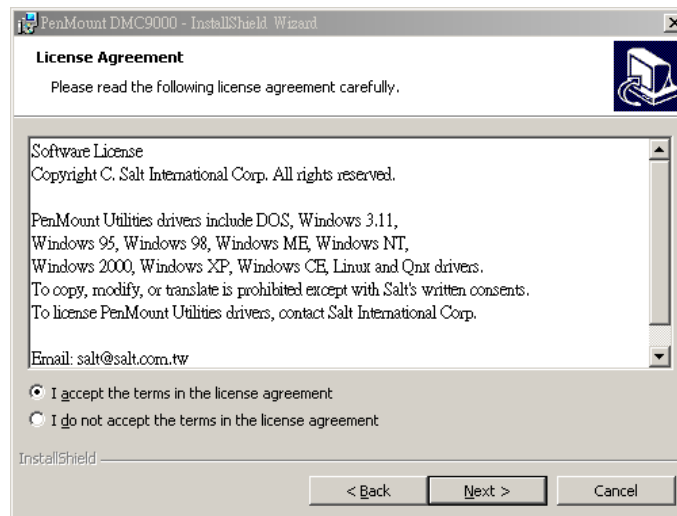

Figure C-3: License Agreement
Step 5: The license agreement shown in **Figure C-3** appears. Agree to the license by selecting “I accept the terms in the license agreement”.